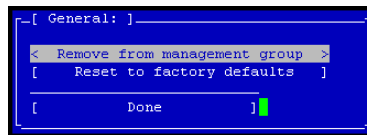

Figure 228. Removing the SSM from a Management Group
1. On the Configuration Interface main menu, tab to Config Management and press Enter. The Configuration Management window opens, shown in Figure 228.